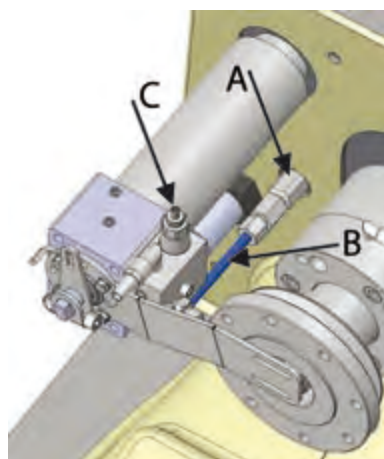

Figure 23. Rear end bearing grease tube
The bearing at the rear end of the shaft is lubricated from point A indicated in figure 23. The lubricant flows through the hoses and casting channels in the propulsion unit to the rear end bearing housing. A line is formed from point A to automatic lubrication with a plastic hose (B). Alternatively, there can be a grease nipple at the end of the hose.
rotates. The grease going to the rear bearing lubricates the bearing, and it also prevents water from leaking into the bearing housing. The amount of grease is adjusted with a screw in the hydraulic cylinder which tightens the spring (figure 23, point C). When you loosen the screw, the amount of grease decreases.
6. Fit the grease hose to the nipple in the frame (figure 23, point A).
- If the automatic lubrication unit feeds too much grease (the reservoir empties too soon), reduce the pressure by loosening the adjusting screw (figure 23, point C).
- If the automatic lubrication unit does not feed grease to the rear bearing (cold conditions, thick grease type), increase the pressure by tightening the adjusting screw (figure 23, point C).